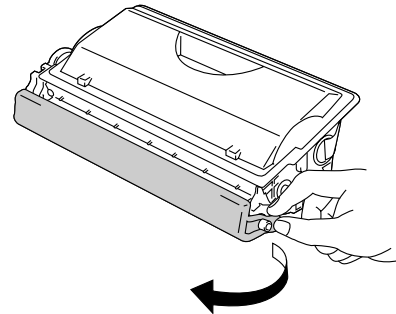

Fig. 5-6
- (4) Remove the yellow plastic protective cover. (Fig.5-6)